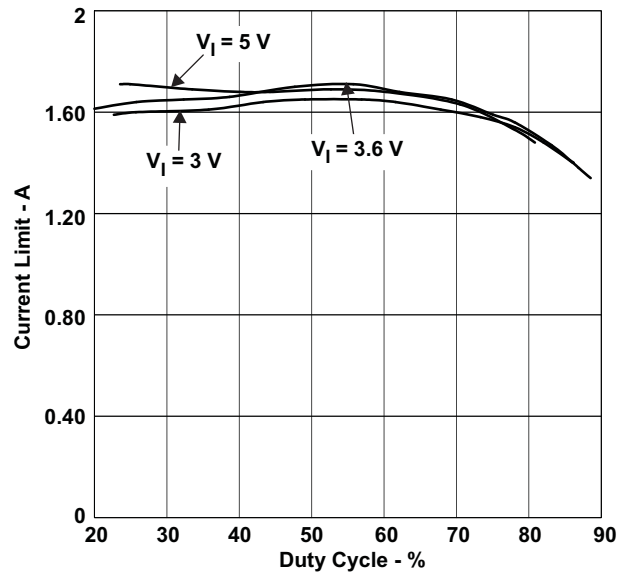

Figure 9.
(1) V_{IN} = 3.6 V, V_{out} = 15 V, Duty cycle = 76%. See Figure 6 to Figure 9 for other operation conditions.
(2) OUT short circuit condition is detected if OUT stays lower than V_{IN} – V_{sc} for 2 ms after IC enables.
To minimize the variation in the overcurrent limit threshold, the TPS61080/1 uses the VIN and OUT pin voltage to compensate for the variation caused by the slope compensation. However, the threshold still has some dependency on the VIN and OUT voltage. Use Figure 6 to Figure 9 to identify the typical over-current limit in your application, and use 25% tolerance to account for temperature dependency and process variations.